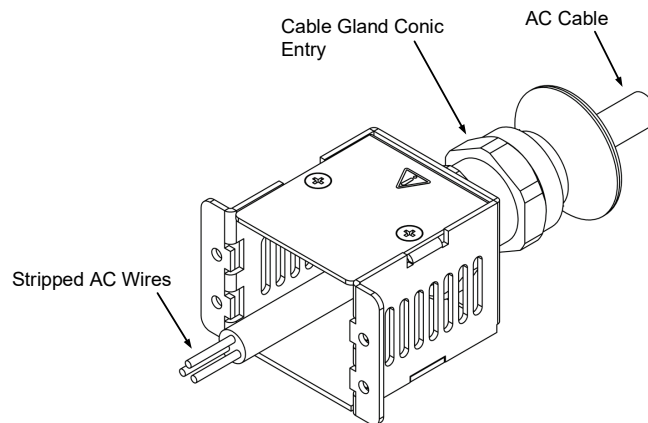

Figure 7-4: Insertion of the AC Cable through the Cable Gland and Strain Relief Bracket Assembly
6. Insert the AC cable through the cable gland and the strain relief bracket assembly, as shown in **Figure 7-4** (applicable for 4-wire 3-phase and 3-wire 1-phase; 1-phase shown).